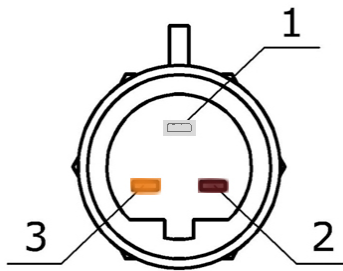

Figure 18 — DUT-E I and DUT-E F interface cable connector pinout
**DUT-E A5, DUT-E A10, DUT-E I** electrical connection is made according to pinout of the connector and interface cable wires description. See Figure 18 and Chart 7 for details.